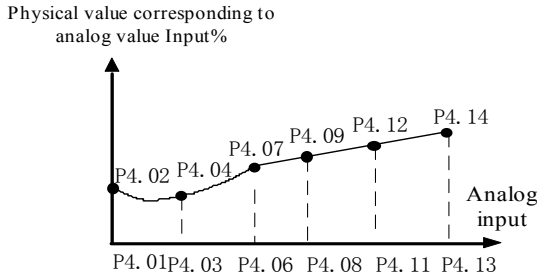

Fig. 5-4-2 Analog input non-linear curve
- ◆ When P4.00 is set to 1, 2(S2R4GB, S2R75GB have no AI2) or 3, the function of P4.01~P4.04, P4.06~P4.09 and P4.11~P4.14 are different to Note 1. User can define their own nonlinear curves by setting these parameters. Six points can be set on the curve. As shown in Fig. 5-4-2. In addition, the setting value to P4.01, P4.03, P4.06, P4.08, P4.11 and P4.13 must increase in order.